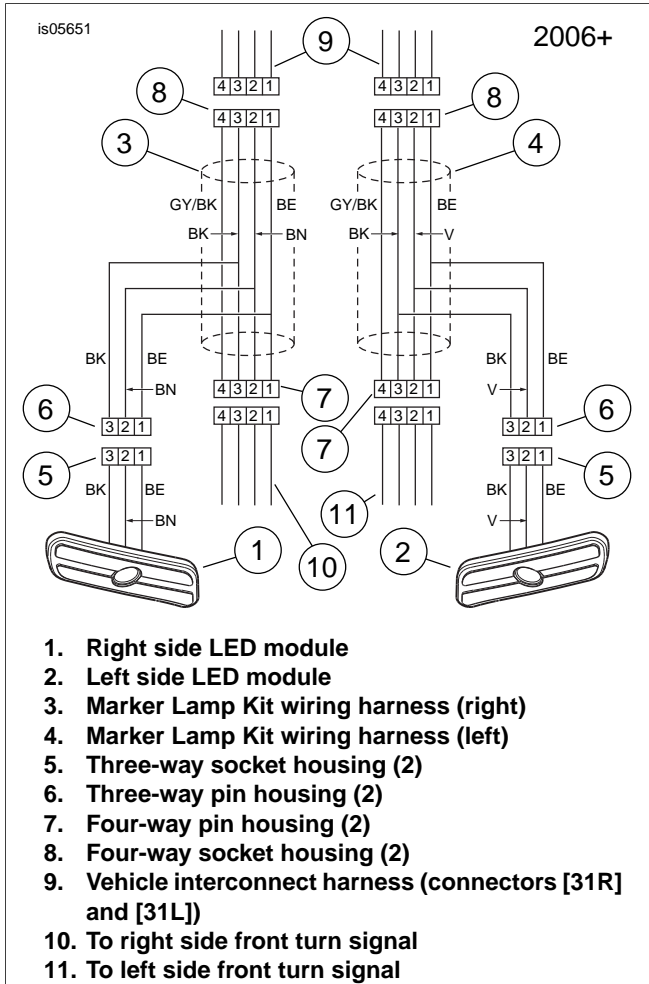
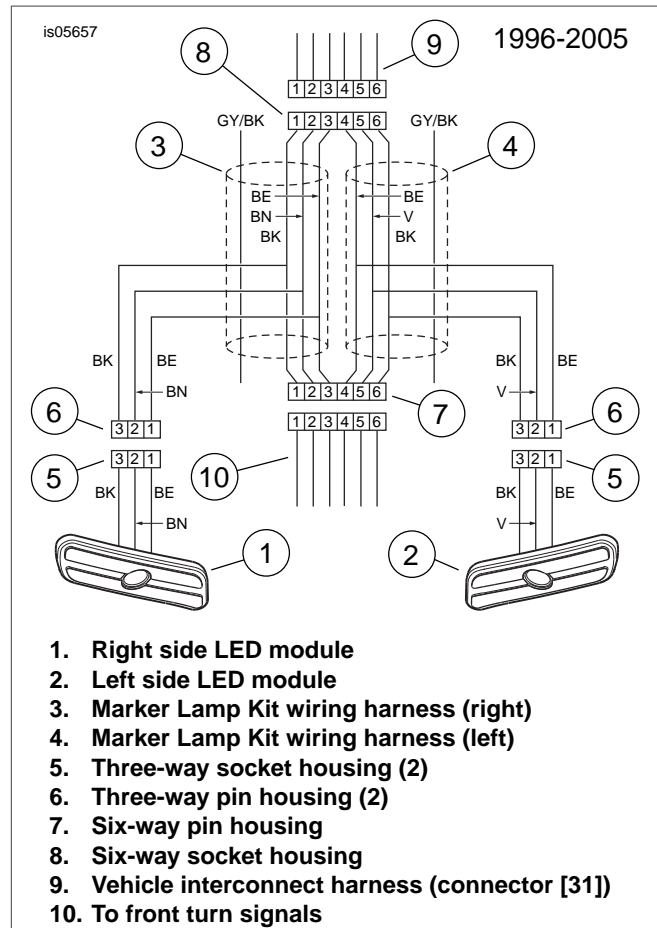
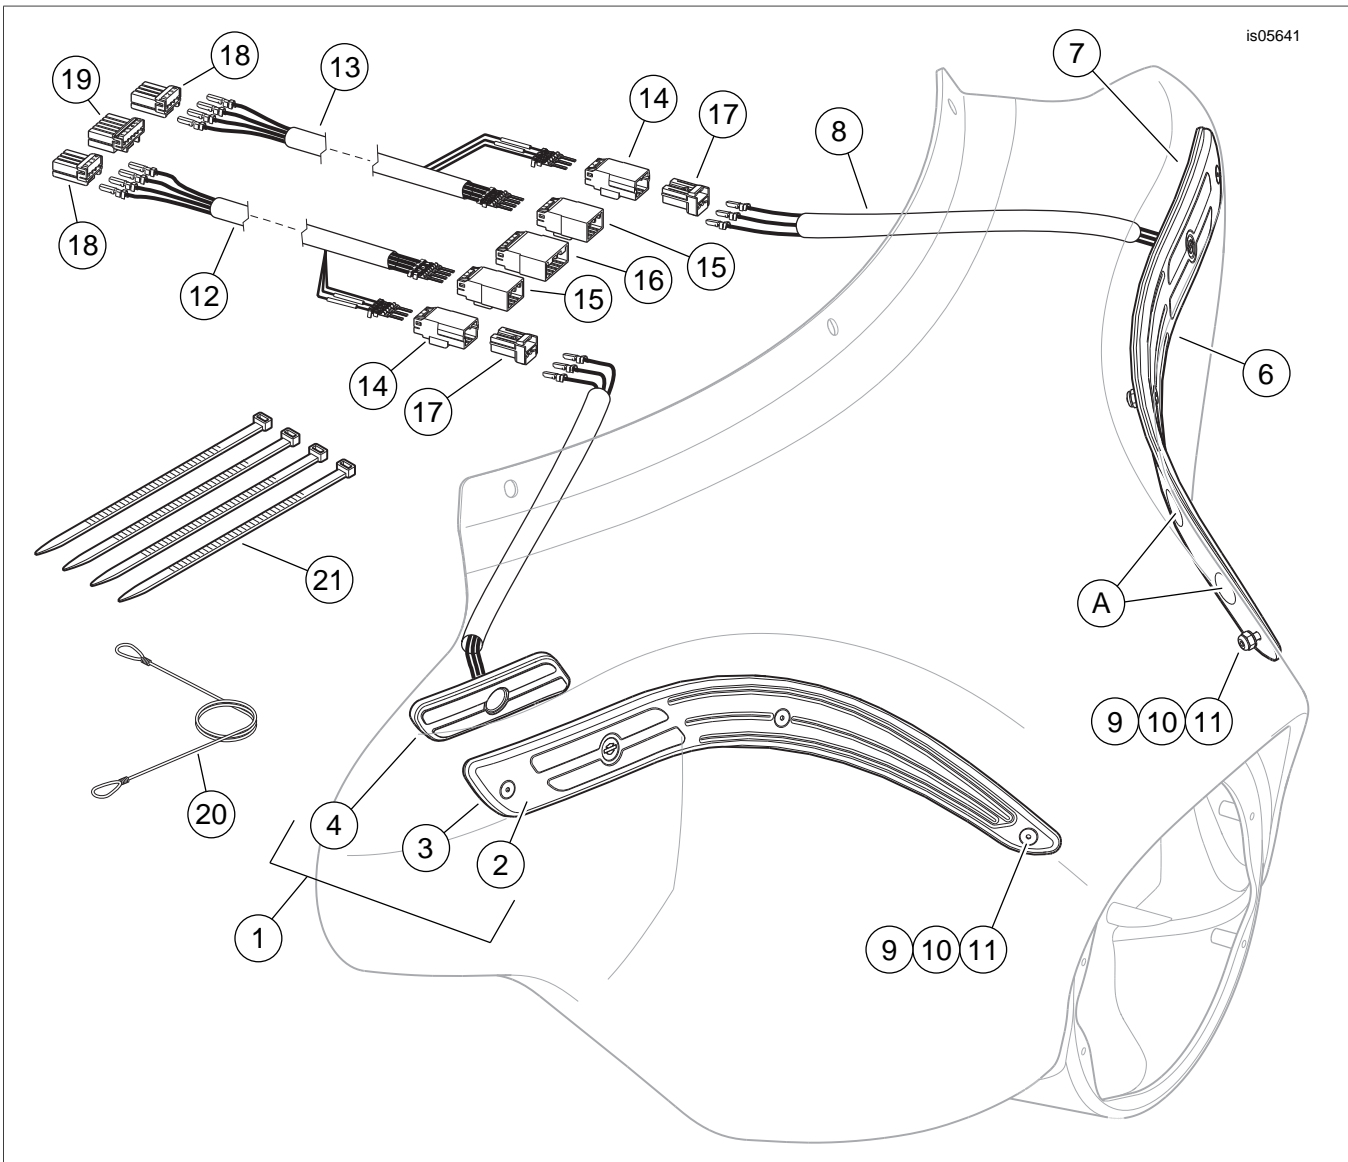

Figure 3. Wiring Diagram, FLHT Fairing Trim and Auxiliary Lamp Kit (2006 and Later)
Figure 4. Wiring Diagram, FLHT Fairing Trim and Auxiliary Lamp Kit (1996 Through 2005)
Figure 5. Service Parts, FLHT Fairing Trim and Auxiliary Lamp Kit
1. See Figure 5. Obtain the right side LED marker lamp module (4). Remove the release liner from the adhesive tape located on the face of the lens.
3. Insert the LED wires through the wiring hole in the fairing. Position the accent assembly against the fairing and install using #8-32 flat head screws (9), flat washers (10) and lock nuts (11).
1. See Figure 3 and Figure 4. Determine the wiring based on the model year vehicle. Insert the terminals of the correct colored wires into the correct pin or socket housing numbered cavities as shown.
2. **2006 and later models:** See Figure 5. Obtain the following items from the kit:
- the right-side (12) and left-side (13) wiring harnesses
- two three-way pin housings (14)
- two four-way pin housings (15)
- two three-way socket housings (17)
- two four-way socket housings (18)
3. See Figure 3 and the wiring diagrams in the service manual. Refer to the service manual and follow the instructions given to separate the four-way Multilock connectors [31R] and [31L] supplying the left and right front turn signals (10) and (11) from the vehicle interconnect harness (9).
4. At one end of the right-side Marker Lamp Kit wiring harness (3) are four wires with **socket** terminals. Follow the color coding in Figure 3, and insert the terminals into the correct cavities of a four-way socket housing (8) according to the instructions in the service manual.
5. At the opposite end of the wiring harness are four wires with **pin** terminals. Follow the color coding to insert the terminals into the correct cavities of a four-way pin housing (7).
6. Follow the color coding to insert the remaining pin terminals into the correct cavities of a three-way pin housing (6).
7. Repeat steps 4 through 6 for the left-side Marker Lamp Kit wiring harness (4).
8. Insert the marker lamp (1 and 2) socket terminals into the correct cavities of the two three-way socket housings (5).
9. Plug the four-way socket housings (8) from the Marker Lamp Kit wiring harnesses into the open four-way pin housings on the interconnect harness (9).
- 1996 through 2005 models: See Figure 5. Obtain the following items from the kit:
- one six-way pin housing (16)
- one six-way socket housing (19)
- See Figure 4 and the wiring diagrams in the service manual. Refer to the service manual and follow the instructions given to separate the six-way Multilock connector [31] supplying the left and right front turn signals (10) from the vehicle interconnect harness (9).
- At one end of the right-side Marker Lamp Kit wiring harness (3) are four wires with **socket** terminals. Follow the color coding in Figure 4, and insert the terminals into the correct cavities of the six-way socket housing (8) according to the instructions in the service manual.
- Repeat for the left-side Marker Lamp Kit wiring harness (4).